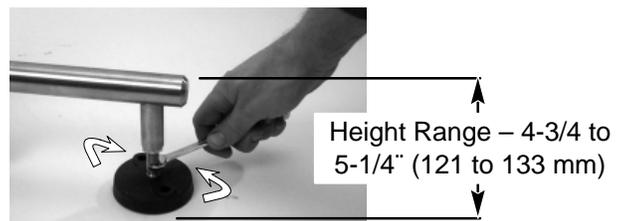

Figure 13
- Rotate threaded pad mounting shaft (Figure 13) to level stand. Re-tighten jam nut (V of Figure 12).